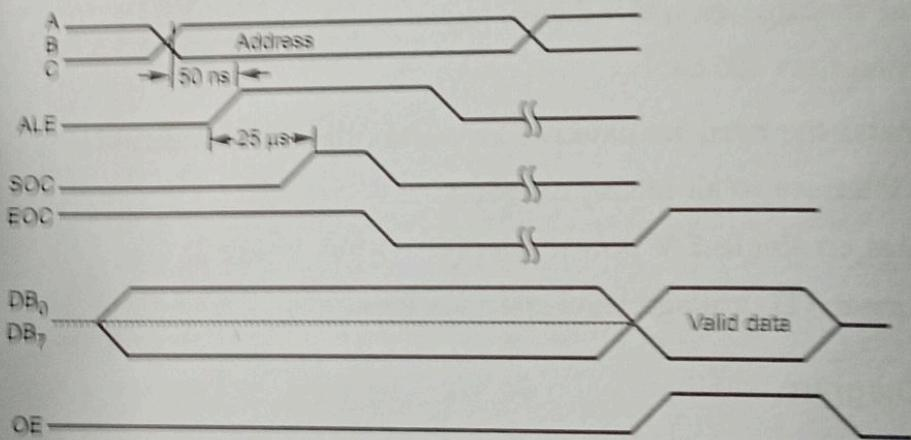

Fig. 3.6.2 Timing waveforms for ADC 0808
- The microprocessor system can read converted digital word through data bus by enabling the output enable signal after EOC is activated. This is illustrated in Fig. 3.6.2.